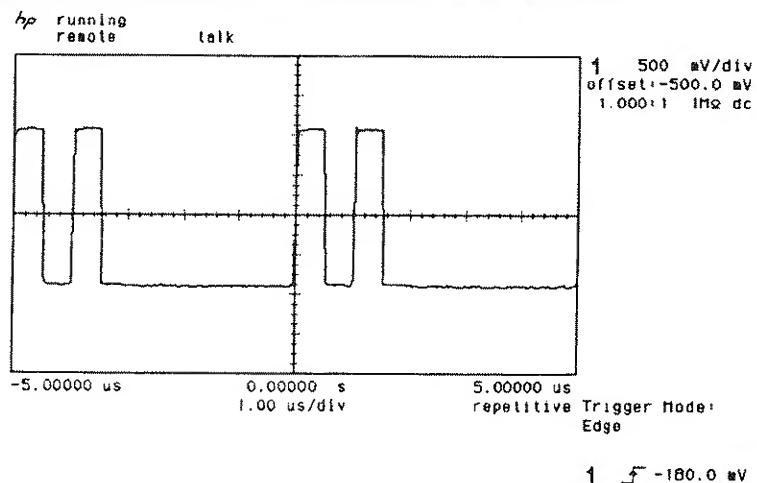

Figure 6-2. Two-Burst Waveform after Autoscale
- Press **AUTOSCALE** (see Figure 6-2).